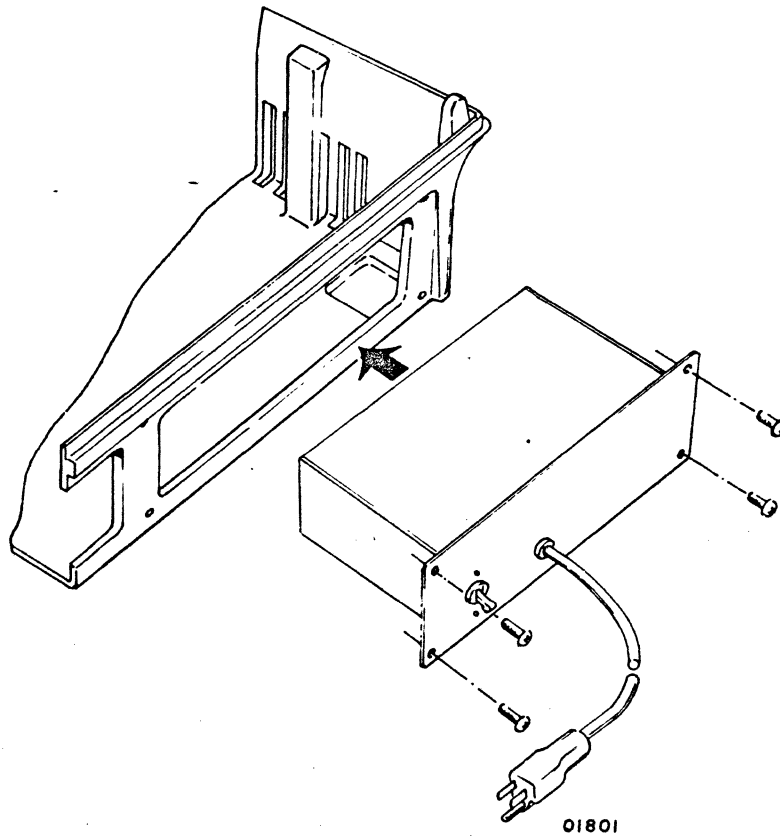

Figure CRT5. AC Entry Panel Removal
To remove ac power panel assembly, refer to figure CRT5 and perform the following:
- 9) Fasten four screws (figure CRT5).